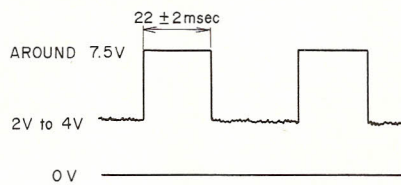

Fig. 21
- Adjust VR1 until the width of the upward pulse above 2 to 4V is $22 \pm 2 \text{ msec}$ when the Strobe markings is seen standing still, as Fig. 21. (oscilloscope-DC Mode)